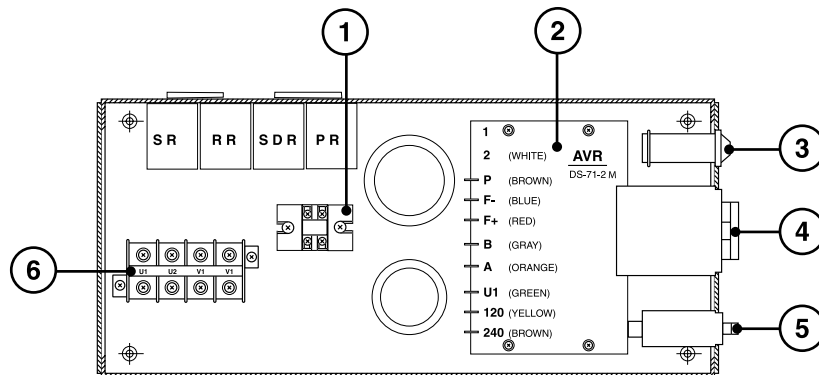

Figure 19: Control Box Components.
3. Generator excitation is provided by activation of the pre-heat circuit and electrical output voltage is controlled by the automatic voltage regulator (AVR) located in the control box (Figure 19, Item 2).
CONTROL BOX (Figure 19)